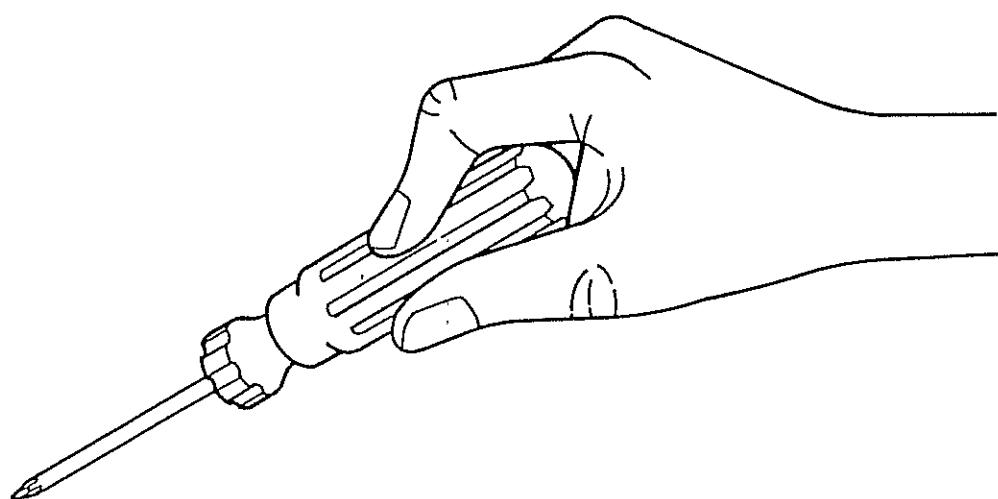

図3 Fig.3
- 指3本で締め付ける程度で固定は充分。手の平でドライバー柄を握り、締め付ける事はない。(図3参照)
- To turn the screwdriver gripping the handle using your thumb and two fingers will provide sufficient fastening force. Do not fully grip the handle using the palm of the hand.(See Fig.3)